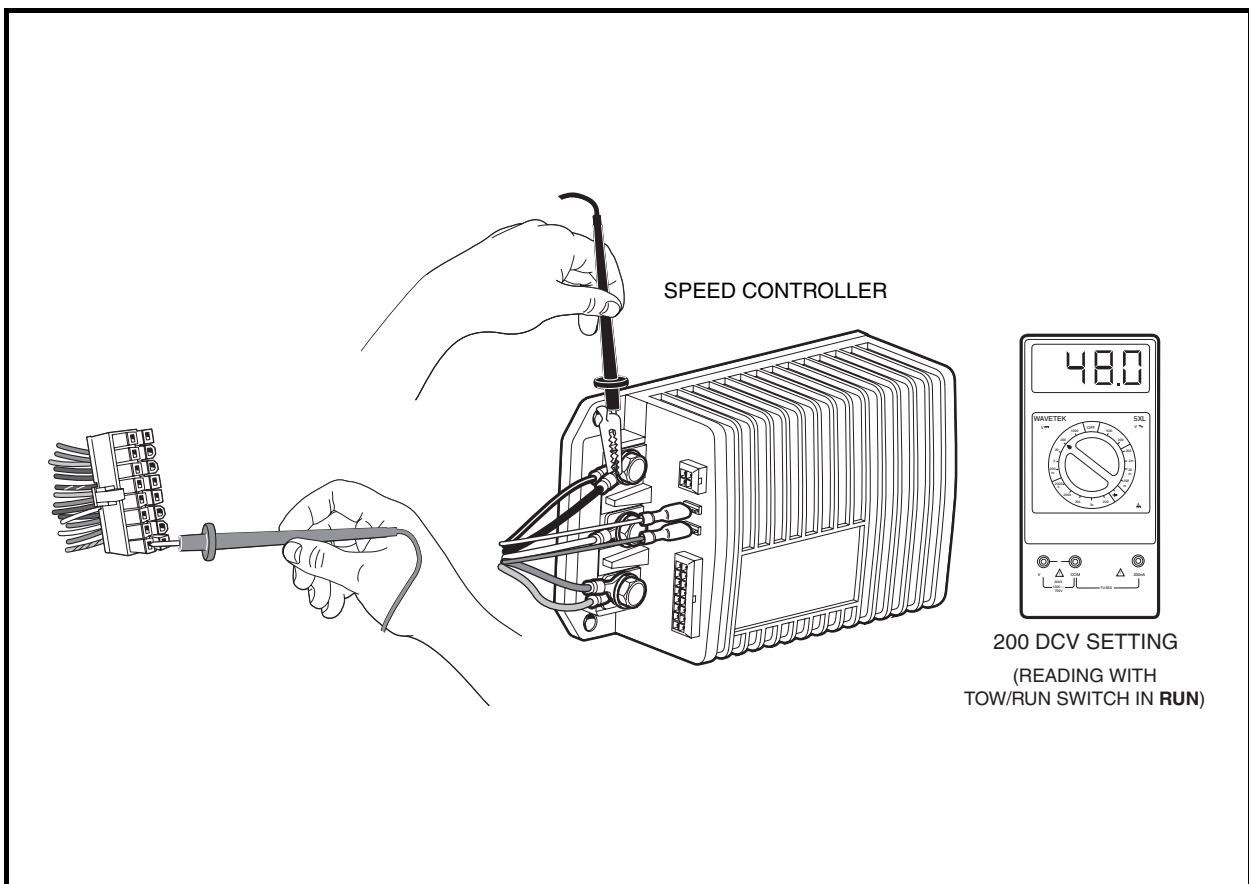

Figure 21-10 Pin 9 Test
4. Set a multimeter to 200 volts DC, insert the red (+) probe of the multimeter into pin 9 (gray wire) of the 16-pin connector. **See following CAUTION.** Using an alligator clip, connect the black (-) probe to the B-terminal of the speed controller (**Figure 21-10, Page 21-25**).